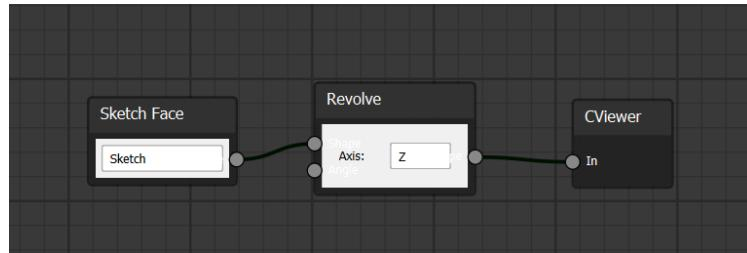

Figure 15:
- +Make sketch in Freecad environment first then in Node window make workflow like fig.15,. Node WB will link to sketch do that revolve job